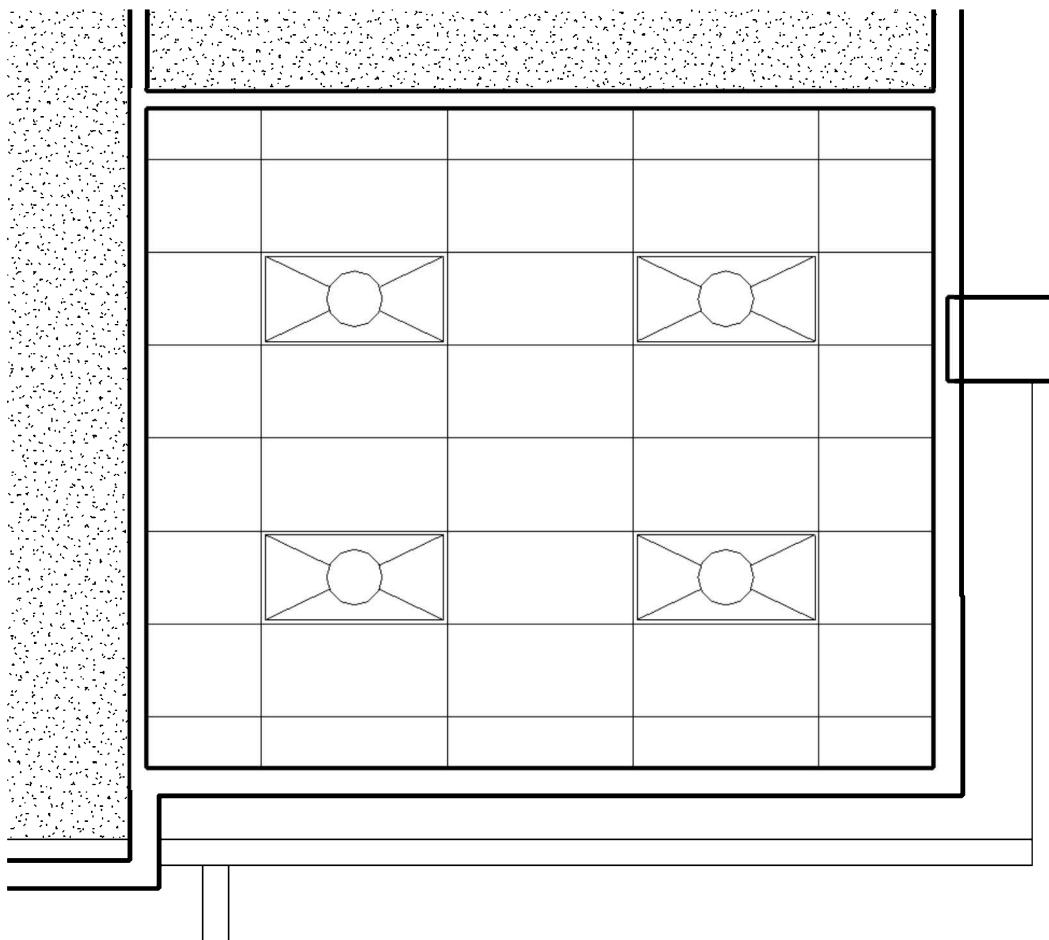

FIGURE 9-3.3 Light fixtures added to ceiling
5. On the **Second Floor Ceiling Plan** view, place fixtures as shown in **Figure 9-3.3**.